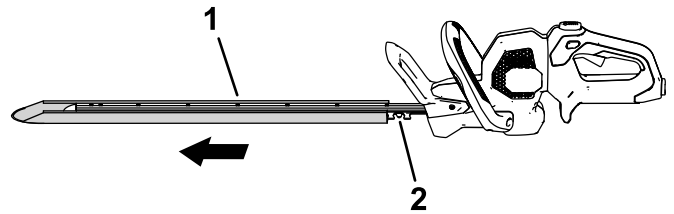

Figure 5
1. Remove the protective cover from the blades (Figure 5).